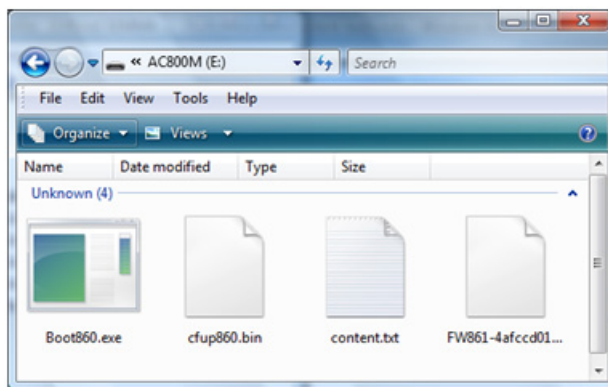
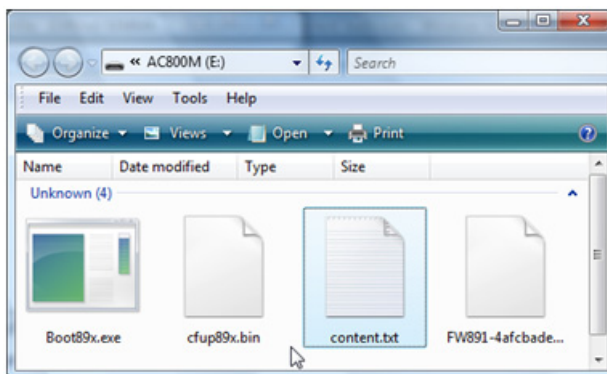

Figure 109. Firmware image files on CF card
Figure 110. Firmware image files on SD card
- There will be four files on the card (see Figure 109 for CF card and Figure 110 for SD card). If the media card is CF, then it has been formatted as FAT.